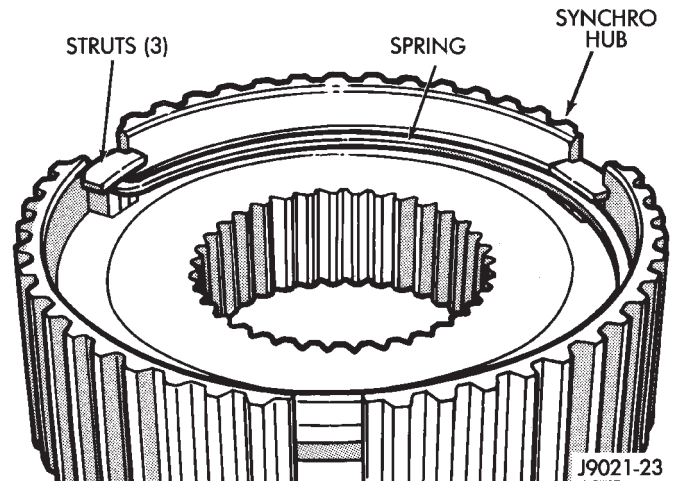
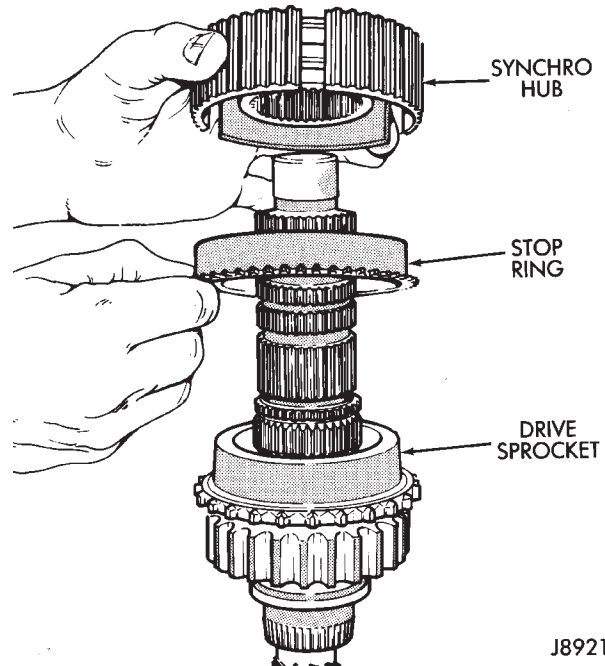

Fig. 49 Installing Synchro Hub Spring And Struts
Fig. 50 Drive Sprocket, Stop Ring And Synchro Hub Installation
(29) Install spring and three struts in synchro hub (Fig. 49).
(30) Lubricate drive sprocket bearings, stop ring and synchro hub with automatic transmission fluid.
(31) Install sprocket, stop ring and synchro hub on mainshaft (Fig. 50). **Be sure to seat hub struts on stop ring lugs.**